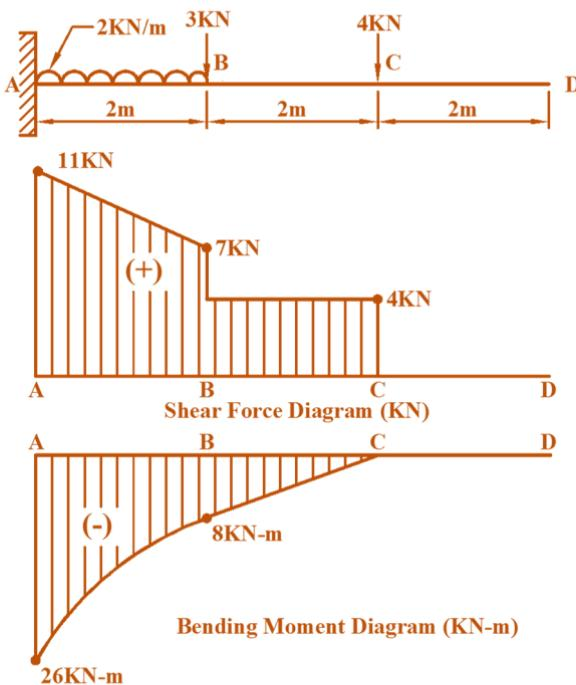

Fig.P7.5 SF and BM diagram [Example 7.5]
*Draw the shear force and bending moment diagrams for the loaded beam shown in the fig.P7.5*